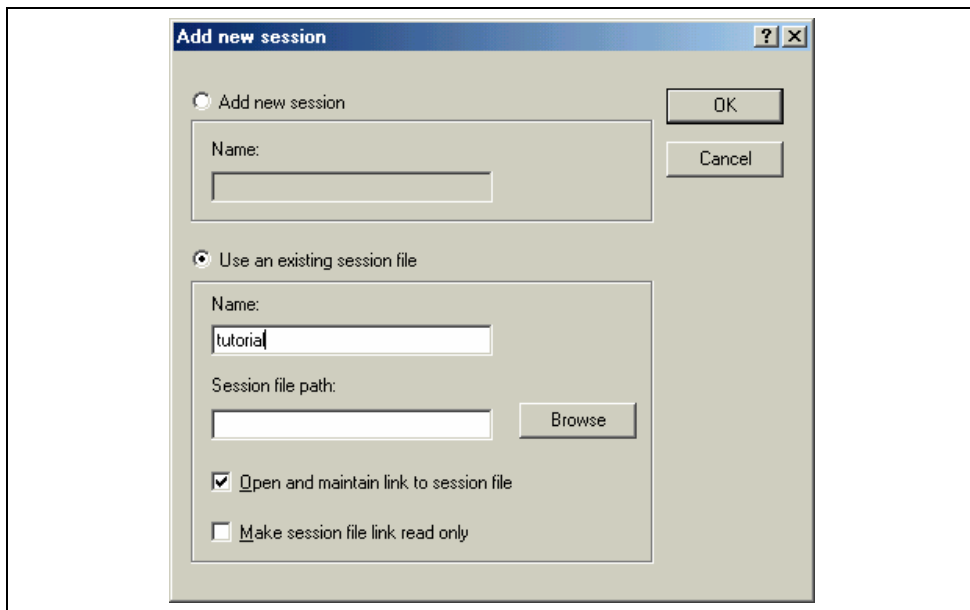

Figure 3.20 Add new session Dialog Box
2. Click the [Add...] button to display the [Add new session] dialog box (figure 3.20).